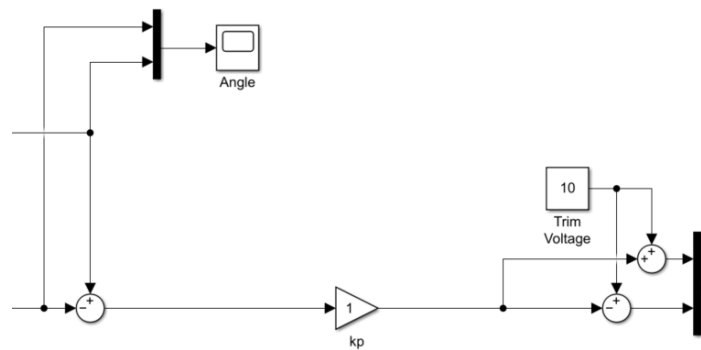

Figure 3: Proportional gain in the feedback loop
3. Add a *proportional* gain block k_p between the *error sum* blocks as shown in Figure 3.